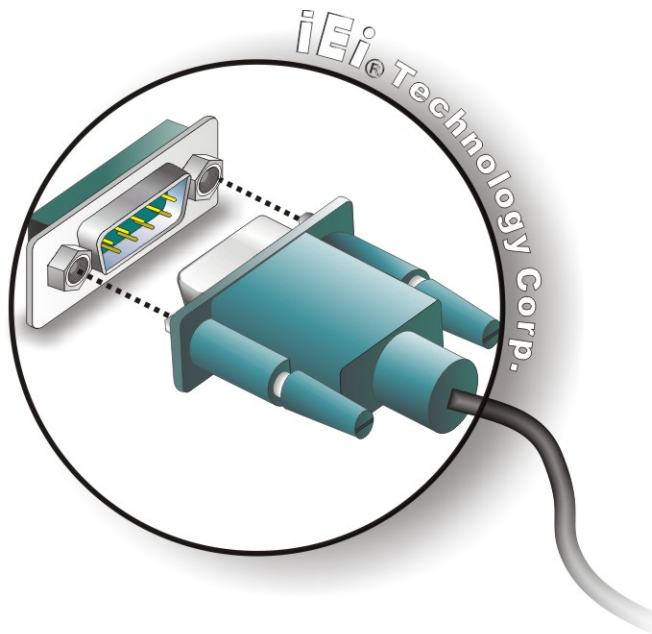

Figure 3-29: DB-9 Serial Port Connector
Step 2: Insert the serial connector. Insert the DB-9 connector of a serial device into the DB-9 connector on the bottom panel. See **Figure 3-29**.